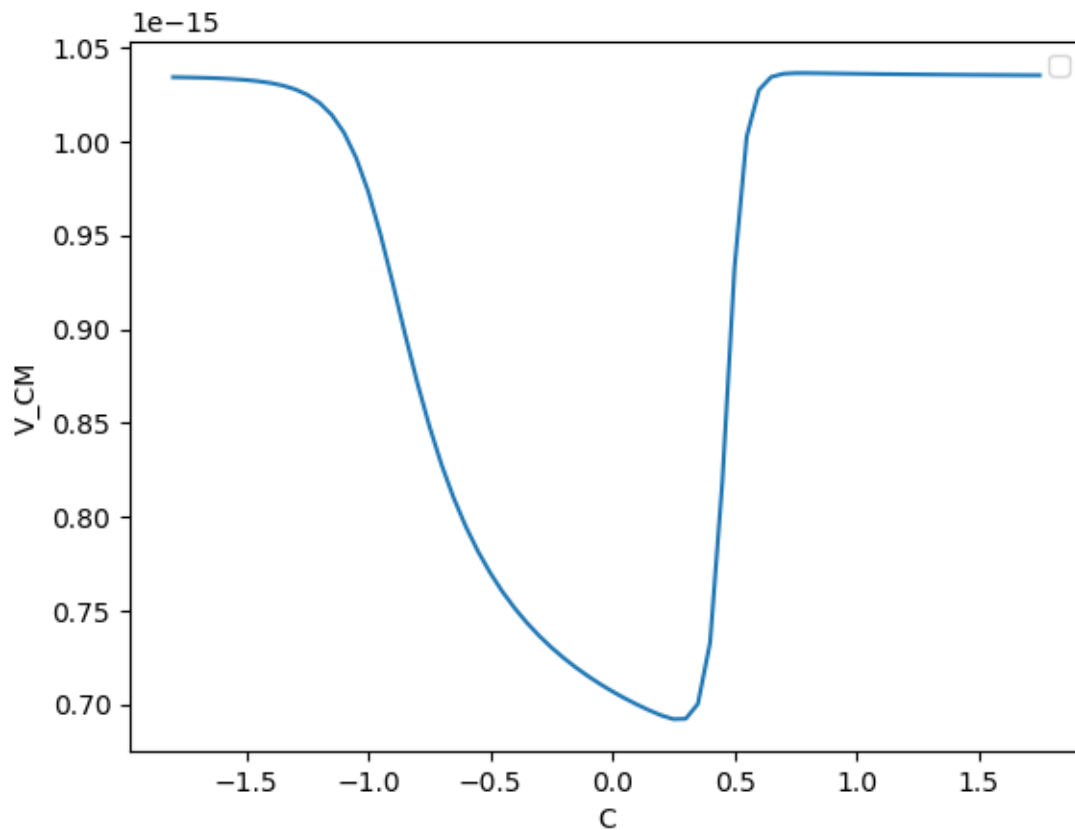

Figure 6: Short Channel, f=100Hz
- Please refer Figure 6 for the plot.